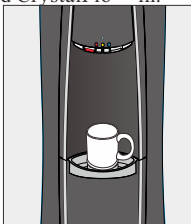
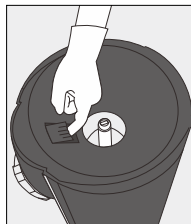
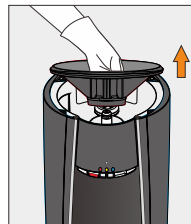

Figure 18
Figure 19
Figure 20
1. Place a glass or other container below the water outlets (to catch drips)(Figure 18), and unlatch the Top Cover Locking Clip (located inside of the Bottle Installation area)(Figure 19), and open Top Cover (Figure 20).